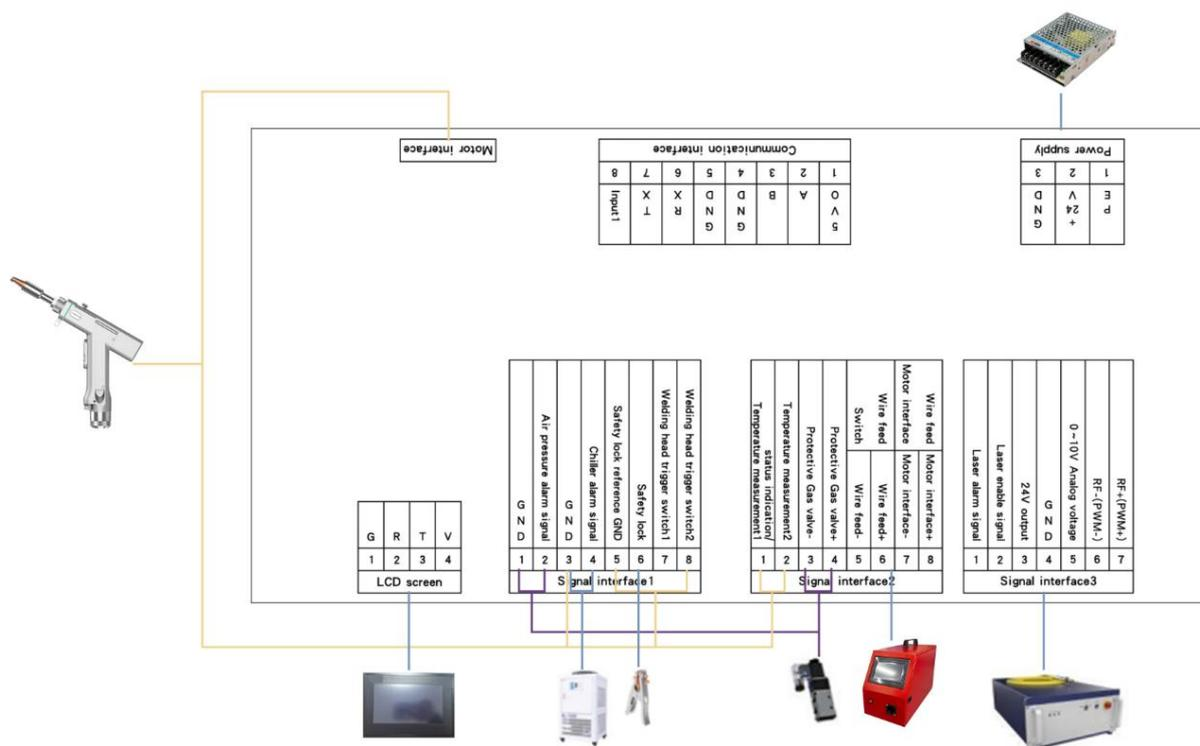

Figure 3.5 Wiring diagram
- ① To avoid abnormal power consumption of the product, the ground wire of the switching power supply must be effectively grounded! The product casing must be grounded!
- ② The icons used in Figure 3.5 refer only to a certain type of product and not specifically to the corresponding product.